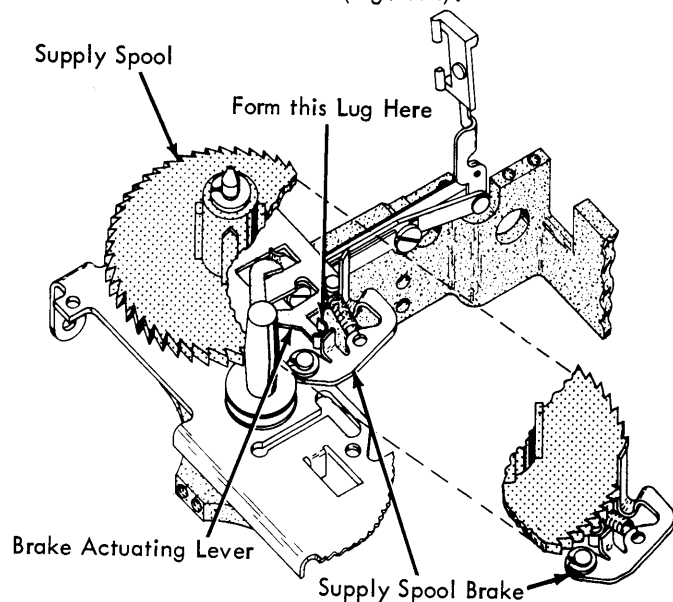

FIGURE 194. Brake Actuating Lever
4. Brake Actuating Lever - Form the lug on the brake actuating lever so that the supply spool brake is allowed to just bottom in the ratchet teeth of the supply spool when the machine is at rest (Fig. 194).